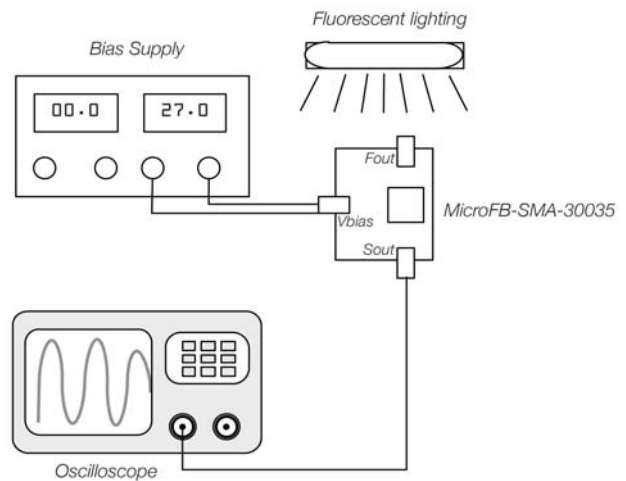

Figure 3. Experimental arrangement for observation of the mains frequency in fluorescent lighting.
- Using Figure 3 as a reference, connect one of the SMA–to–BNC cables to the V_{bias} SMA on the MicroFC–SMA–30035 board, and the other end to the bias supply, using the banana plug adapter if needed.